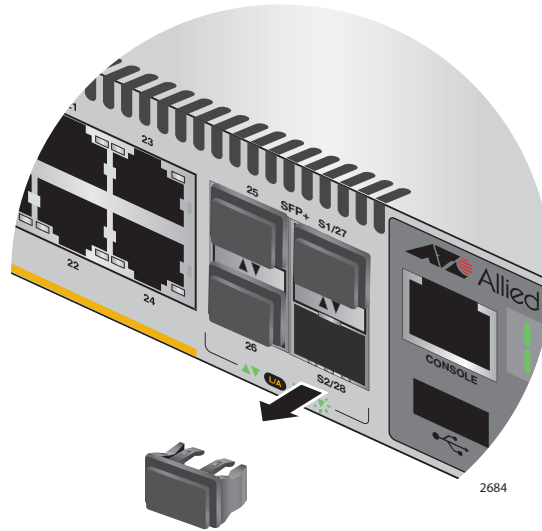

Figure 59. Removing the Dust Plug from the S2 Slot
5. Remove the dust cover from the S2 slot in the next switch in the stack as shown in Figure 59 on page 99.